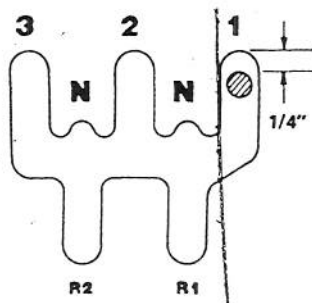

Figure 6
1. Move wheel drive control into No. 1, 1st gear. Position control lever so its front surface is 1/4 of an inch from bottom of slot (Fig. 6); then hold lever in this position.